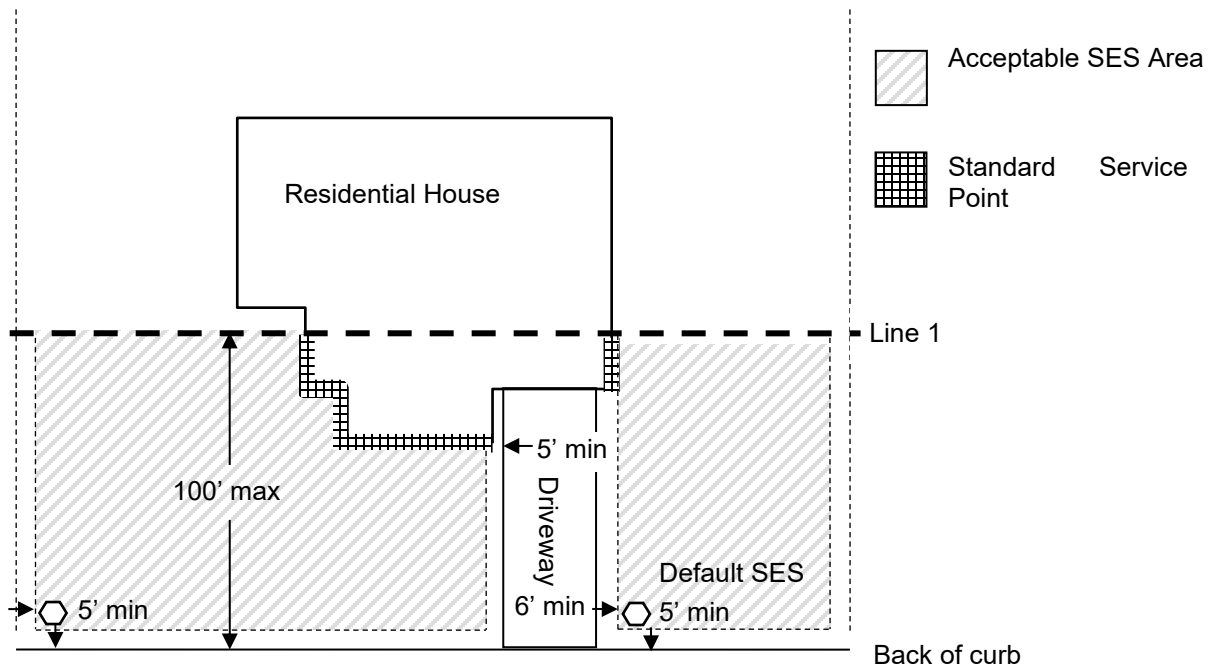

Figure 1. Locating the Standard Service Point
- 2.6 *Acceptable SES Area:* An area where a SES must be placed if the electric meter is not located on the wall of the residential house. See area indicated in Figures 1 - 4.
- 4.3 If the Standard Service Point and Alternative Service Point are not used for the meter location, an SES must be placed in the **Acceptable SES Area**. The default location for an SES must be 5' behind curb, 6' from existing driveway (per RTC DWG. NO. 222 & 222.1), and 5' from lot lines. See Figure 1.